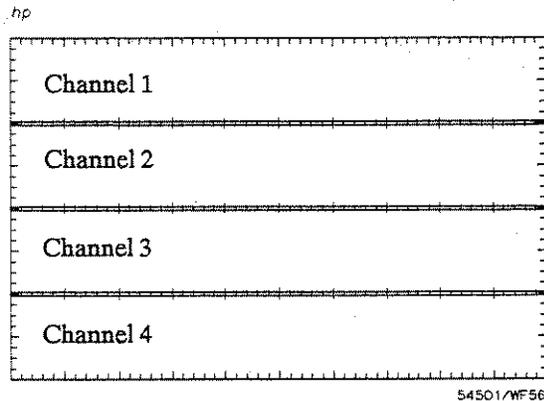

Figure 7-3. Quad Screen Display
- 4: the display is divided into four equal screens with one waveform displayed in each screen (See Figure 7-3).